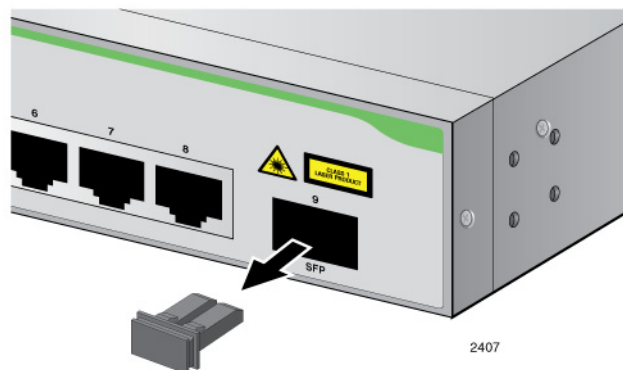

Figure 11. Removing the Dust Plug from an SFP Slot
2. Remove the dust plug from an SFP slot. See Figure 11.